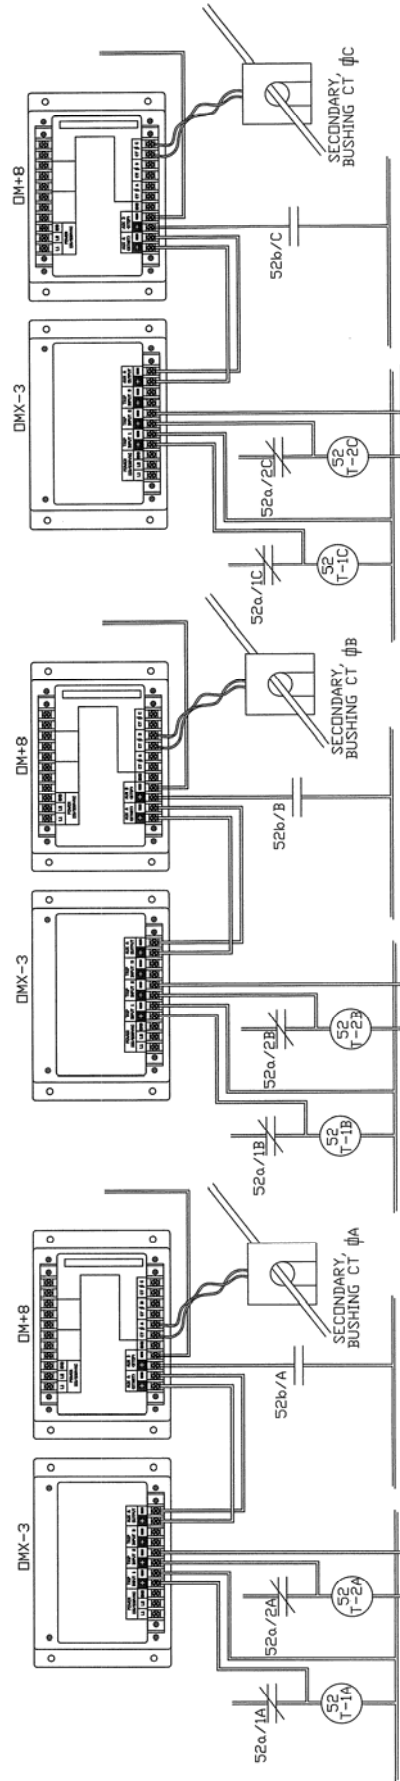

Figure 1.7 Field Wiring Diagram: Individual Pole Mechanisms, Parallel-Ganged, with Redundant Trip Circuits – 3 OPTImizers
6. **Individual Pole Mechanisms, with Parallel-Ganged, Redundant Trip Circuits (Figure 1.7) – Single OPTImizer+ – Short**